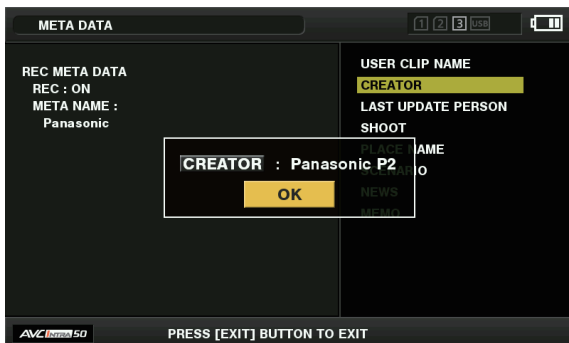

Fig. 1
**2 Use the control stick to move the cursor over the item to be checked, and press the control stick. (Fig. 1)**